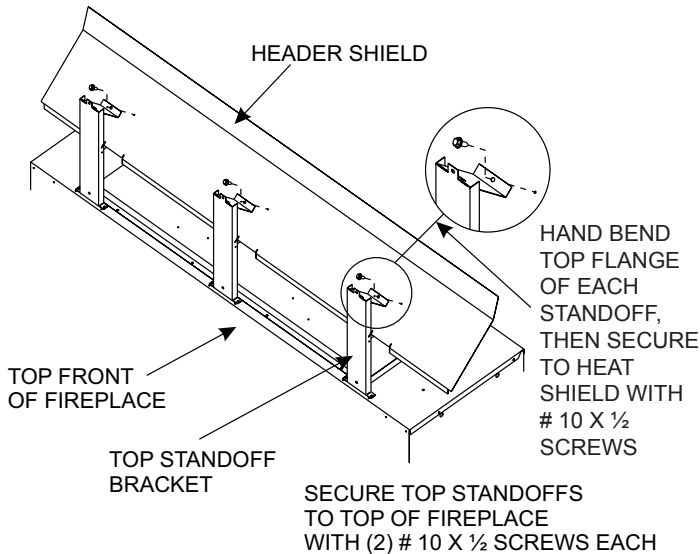
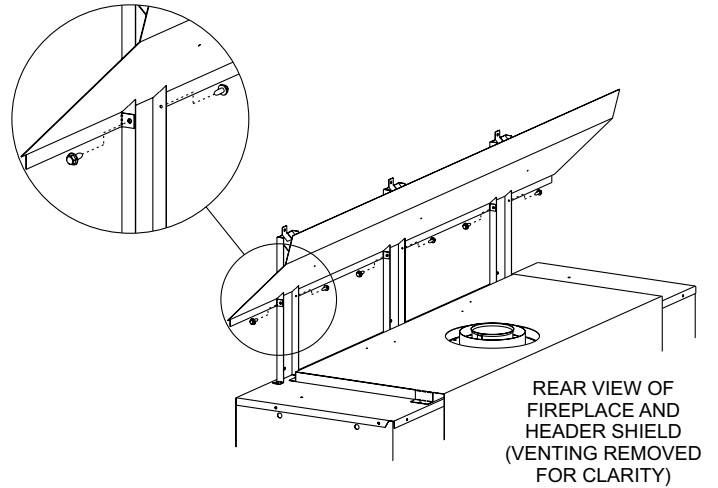

Figure 27
Figure 28
2. Install the **first** Top Standoff and Header Shield assembly to the top of the fireplace and framing header. See Figure 27. Install the **second** Top Standoff and Header Shield assembly to the top of the fireplace and framing header. See Figure 28. Next, connect the overlapped ends of the two header shields, and secure them together using the provided (3) #10 x 1/2 Hex Head screws.